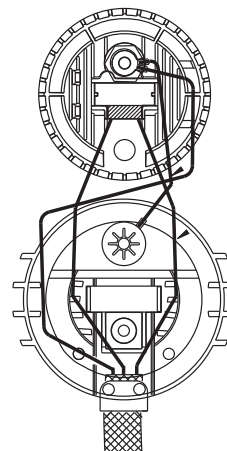

Figure 8
- Step 22: Lay the leads in the bottom half of the cable clamp (located in the housing socket casting [1]), making sure that the fiberglass sleeving extends slightly past the screw holes in the housing socket casting. Install new sleeving if necessary. Then, route the wires as shown in Figure 8.